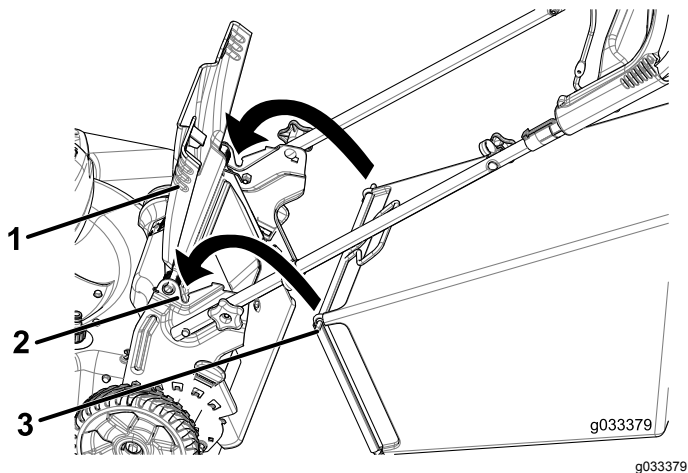

Figure 22
1. Raise and hold up the rear deflector (Figure 22).
2. Install the grass bag, ensuring that the pins on the bag rest in the notches on the handle (Figure 22).